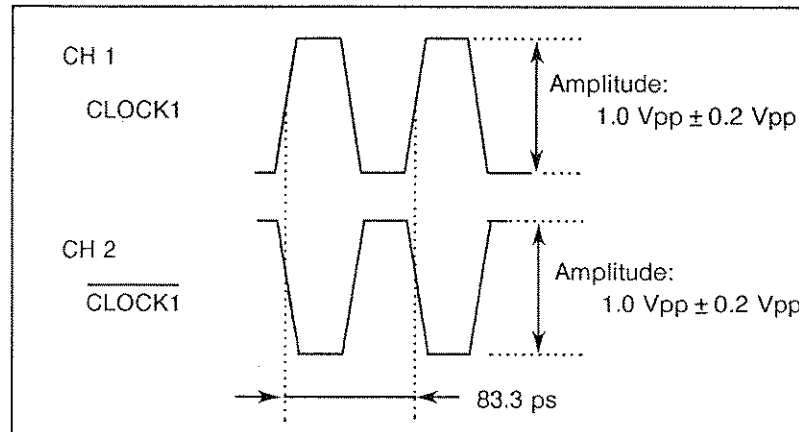

Figure 8-13 CLOCK1,  $\overline{\text{CLOCK1}}$  Output Waveform (AC,  $f = 12000$  MHz)
- (7) Normal when the waveform is a rectangular wave as shown in Figure 8-13.